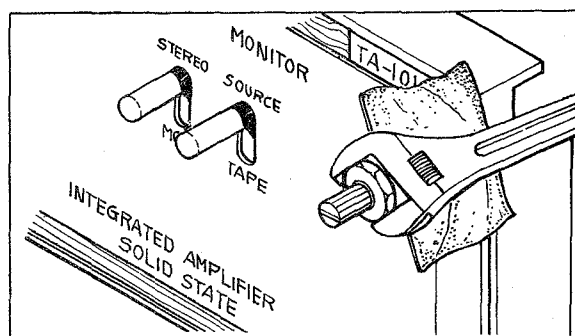

Fig. 2-4 Hex nut removal
4. Remove the two hex nuts that secure the front panel to the chassis. Place a piece of cardboard between the wrench and front panel (as shown in Fig. 2-4) to avoid scratching the panel.